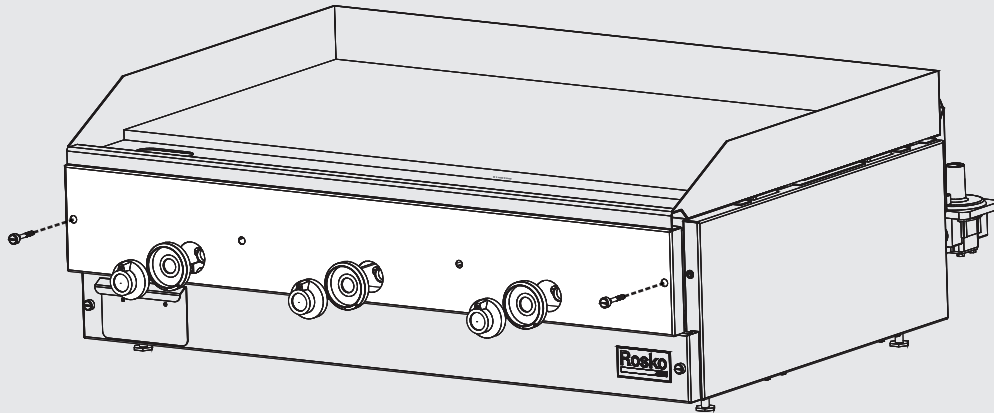

Figure 6
1. To measure the gas pressure, remove the thermostat knob(s) and the indicator ring(s), unscrew the bolts on the front panel, and remove the top panel. **(Figure 6)**